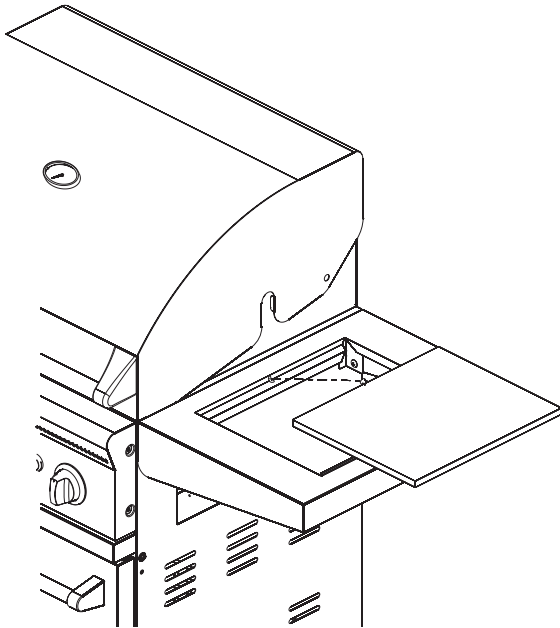

Figure 6
12. Fit screw head on cutting board to the opening on side shelf and lay the cutting board down. **See Figure 6.**